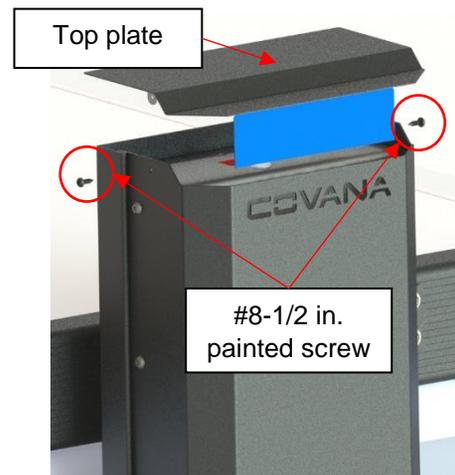

Figure 86
- 26) Fasten the top plates at the top of each post assembly using the two #8-1/2 in. painted screws. (Figure 86)